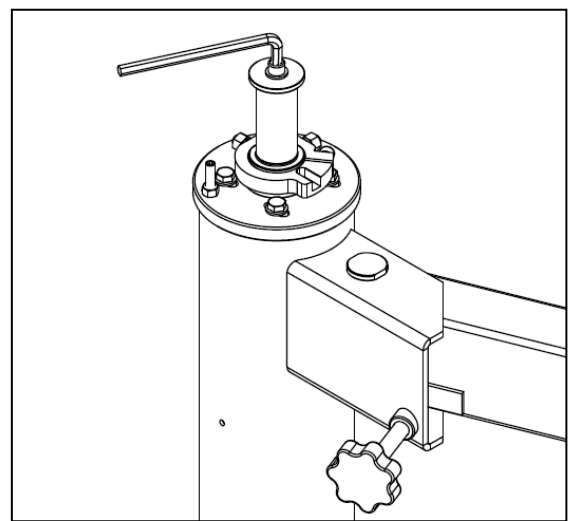

FIG3
2.2 remove the big washer from the fixed base top using the 10# Allen key like FIG3.